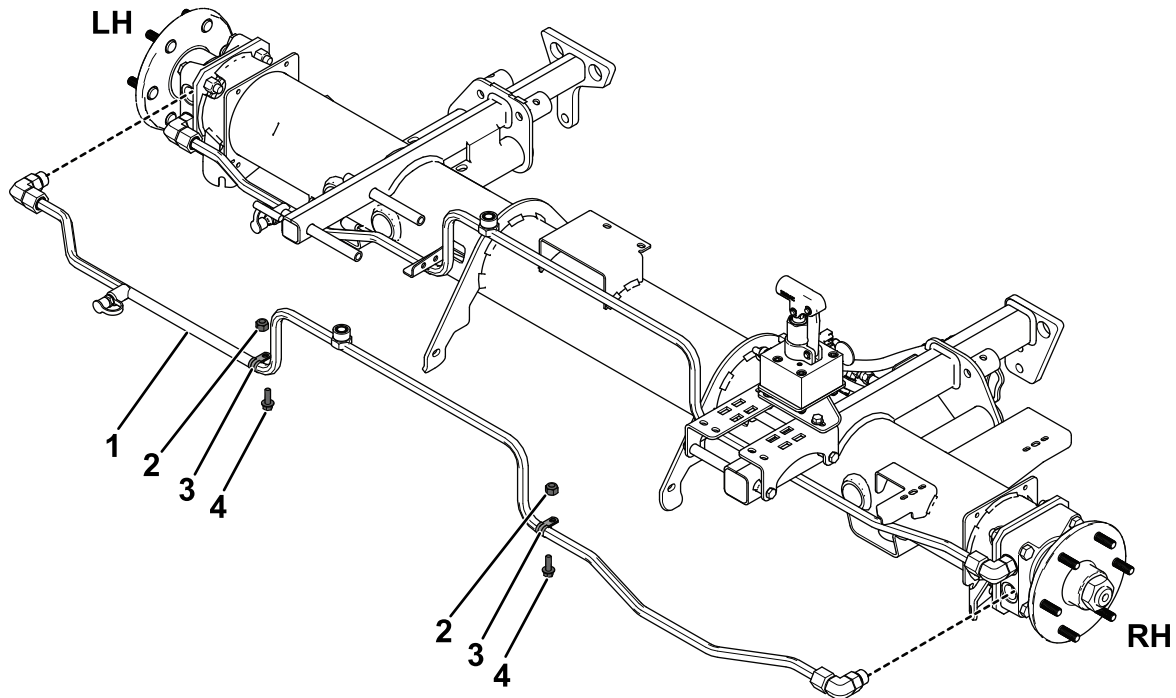

Figure 11
3. Disconnect the hydraulic tube from the top fitting on the front left wheel motor and the bottom fitting on the front right wheel motor (Figure 11).
4. Remove the R-clamps securing the tube to the frame (Figure 11) and the cable ties securing the brake cables to the hydraulic tubes.